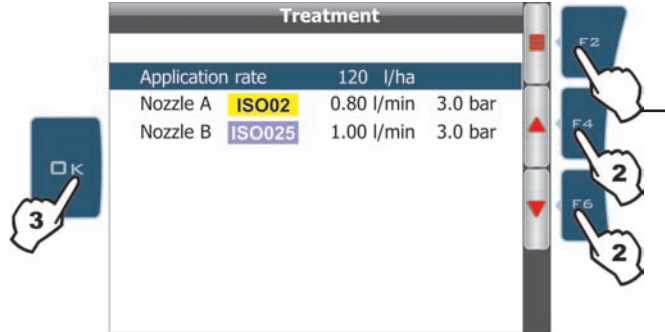

Fig. 227
- 1 Press **F 1**. The display will show the features of treatment underway (Fig. 227).